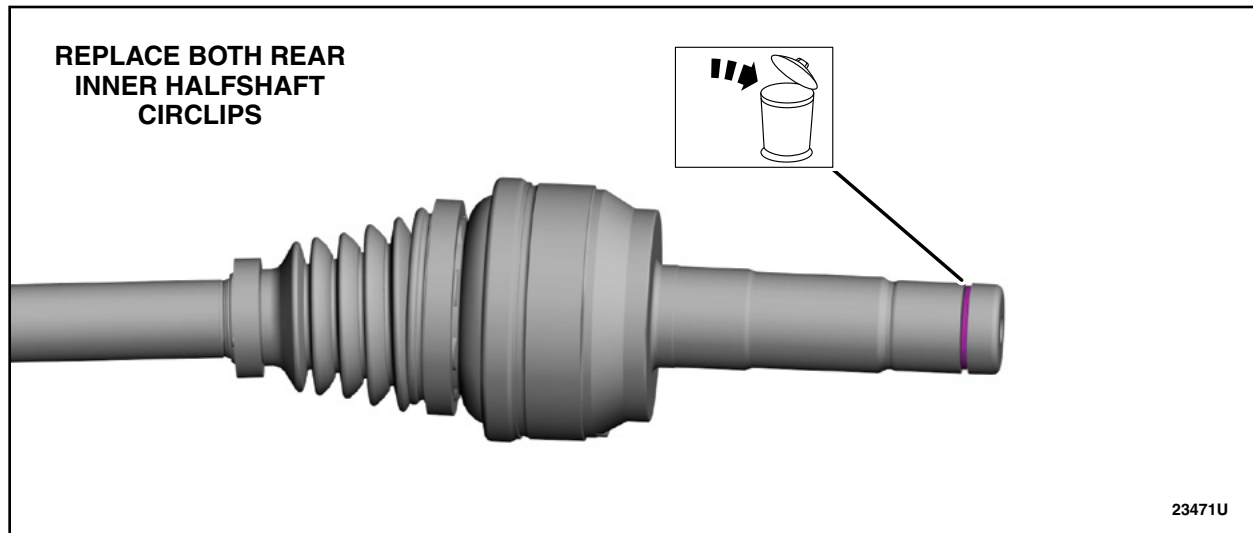

FIGURE 19
27. Remove and discard both rear inner halfshaft circlips. Then, install *new* circlips onto both rear inner halfshafts. See Figure 19. Then, proceed to the next Step.